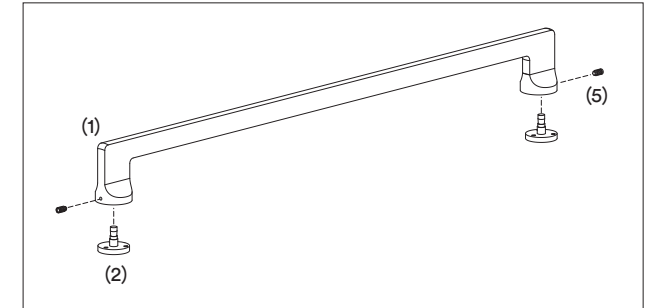

Figure 4.
- 3.1. Remove the Taylor spindles from the pull handle by loosening the grub screws. (Figure 4)